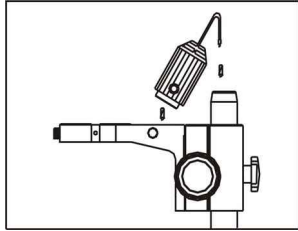

Fig. 6
- 1)Insert the illumination device ① in the bracket with the protrudent side toward the lock screw ② and tighten the lock - screw.Fig .6)